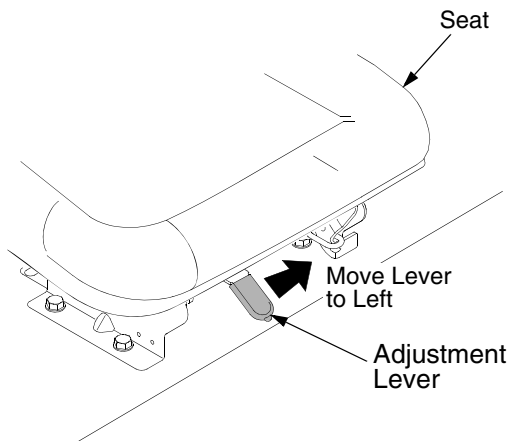

Figure 20
- To adjust the position of the seat, move and hold the seat adjustment lever toward the left. Slide the seat forward or rearward to the desired position; then release the adjustment lever. Make sure seat is locked into position before operating the tractor. See Figure 20.